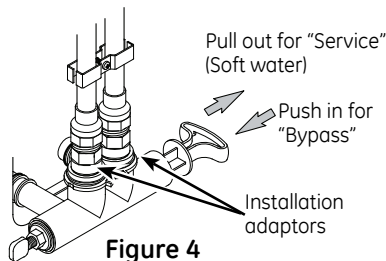

Figure 4
Always install either a single bypass valve (provided), as shown in Figure 4, or, if desired, parts for a 3 valve bypass system (not included) can be purchased and assembled, as shown in Figure 5. Bypass valves allow you to turn off water to the softener for maintenance if needed, but still have water in house pipes.
- Single bypass valve (Figure 4): Slowly move the valve stem toward "service," pausing several times to allow the water softener to fill with water.